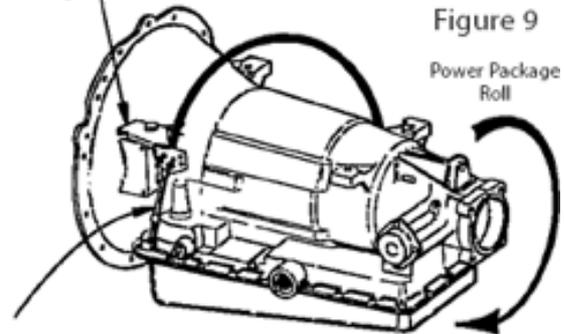

Figure 9
- c. Anchor the cable securely so that the anchor point will not move as load is applied. In most cases the cable end must be anchored to the object to be controlled. This is especially important on engine and transmission controls where power package "roll" could otherwise cause inadvertent operation of the control. See Figure 9.